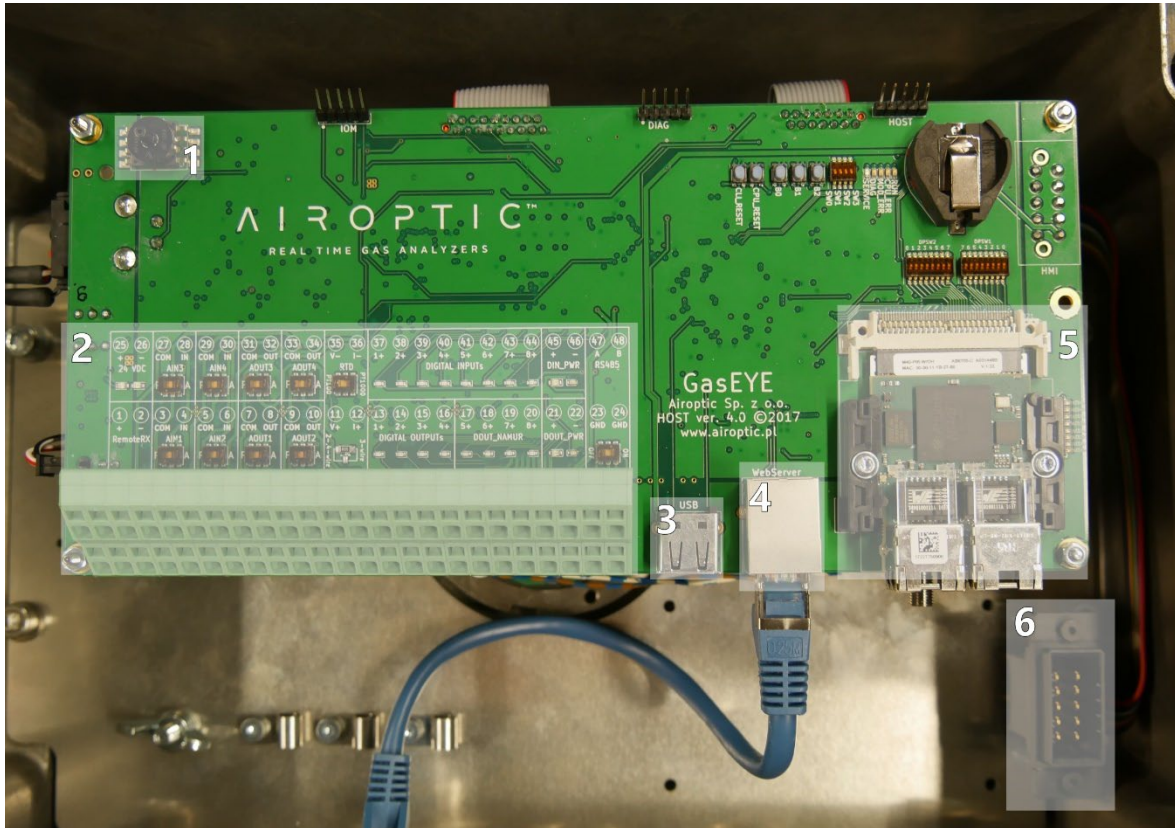

Figure 21. Electronics interface – illustrative photo.
**Figure 21** shows an overview of the electronics user interface. All connections needed to start the analyzer are made through the electrical panel.